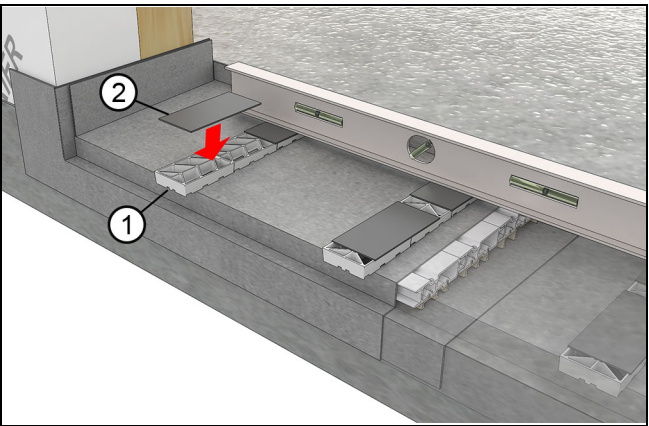

Figure 15 Level counter-shims with stackable shims
4. Check the counter-shim/sill opening for level. If necessary use the 1/16" (3) thick adhesive backed shims (included) to bring the counter-shims to level. See Figure 15.